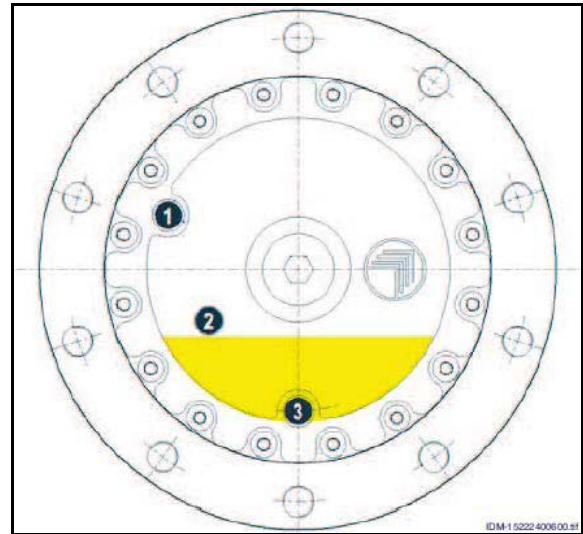

Fig. 176
- Take care that the jack is positioned correctly in the sleeve (Fig. 176/1).